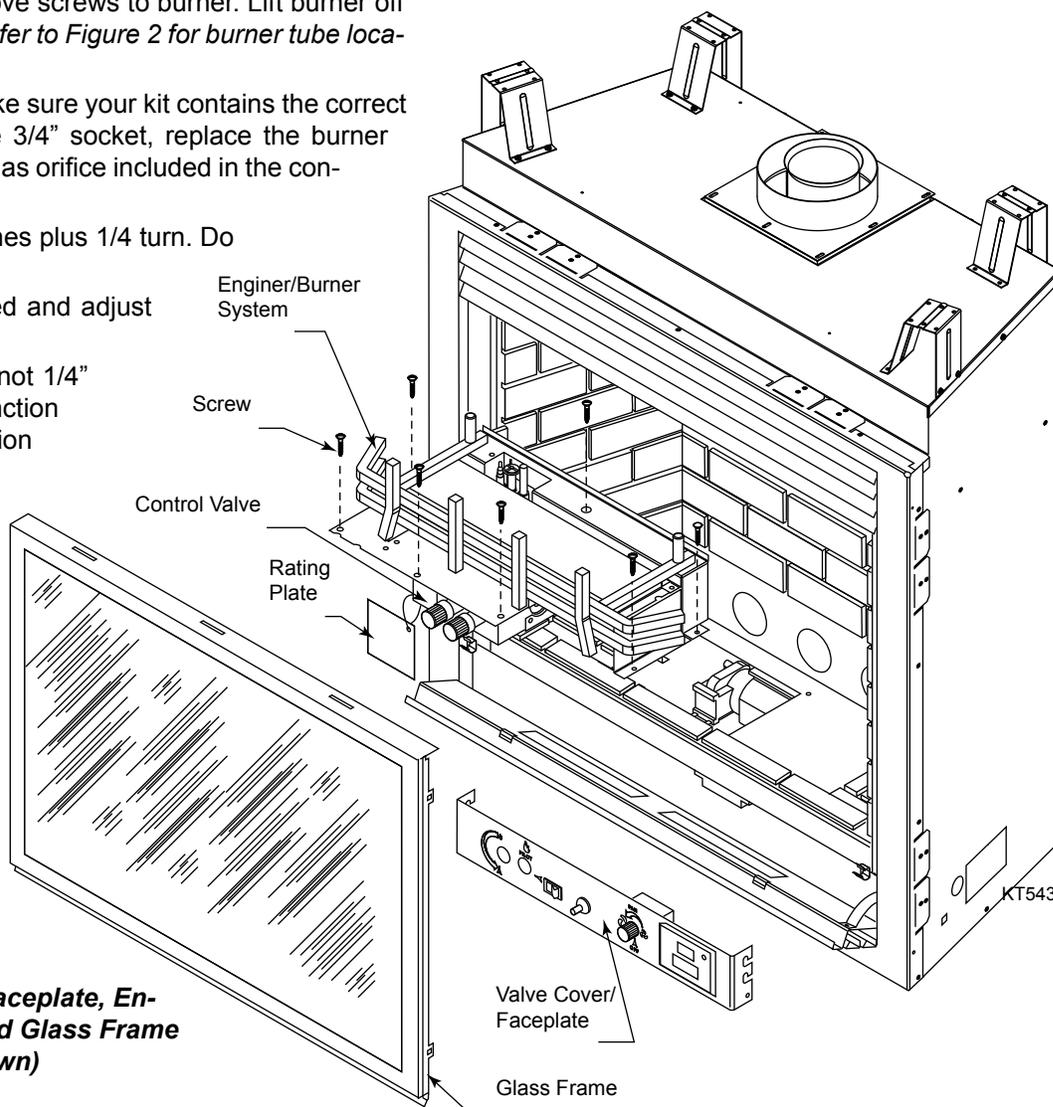

Figure 6
3. Remove valve cover/faceplate from the unit. *Figure 6*
6. Remove the screws securing the engine/burner system. Lift the engine/burner system out through the glass door opening. *Figure 6.* For electronic units, remove ignition module with engine/burner assembly.
4. Place the Propane Conversion rating label plate and the regulator's conversion label on the existing rating plates. *Refer to Figure 6* for rating plate and conversion label locations. Attach conversion label to control valve.
4. Place the Propane Conversion rating plate and the regulator conversion label on the existing rating plates. *Refer to Figure 6* for rating plate and conversion label locations. Attach conversion label to control valve.